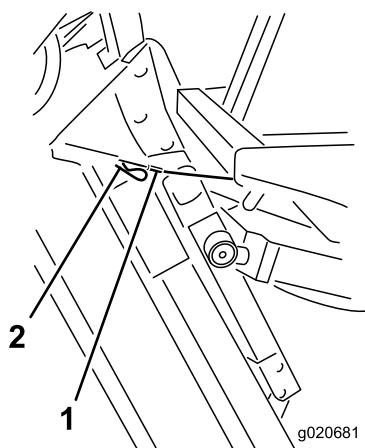

Figure 71
9. Hold the cutting unit upright, fit the cable end over the pin on the cutting unit lift arm, and secure it with the hairpin cotter (Figure 71).